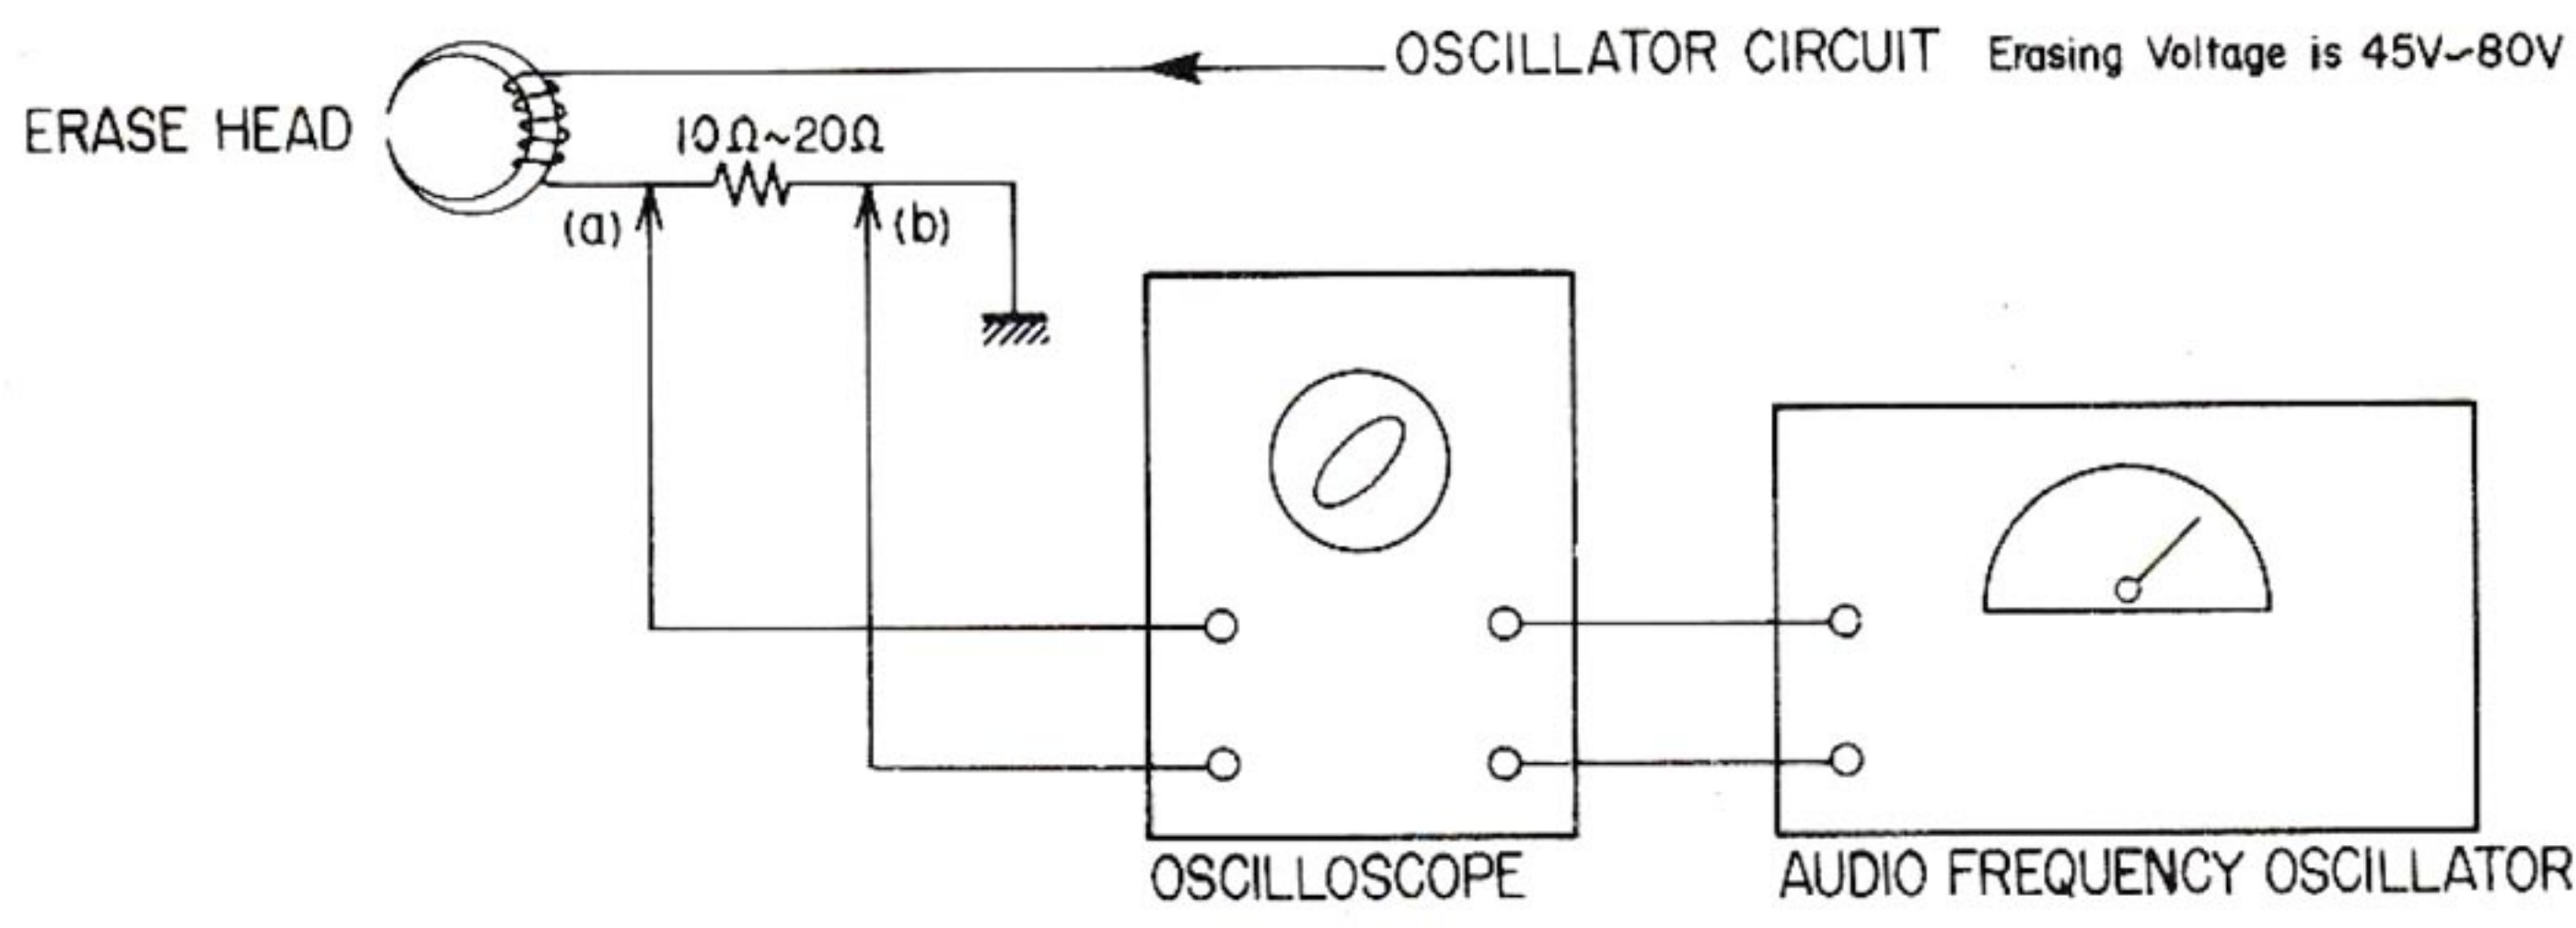
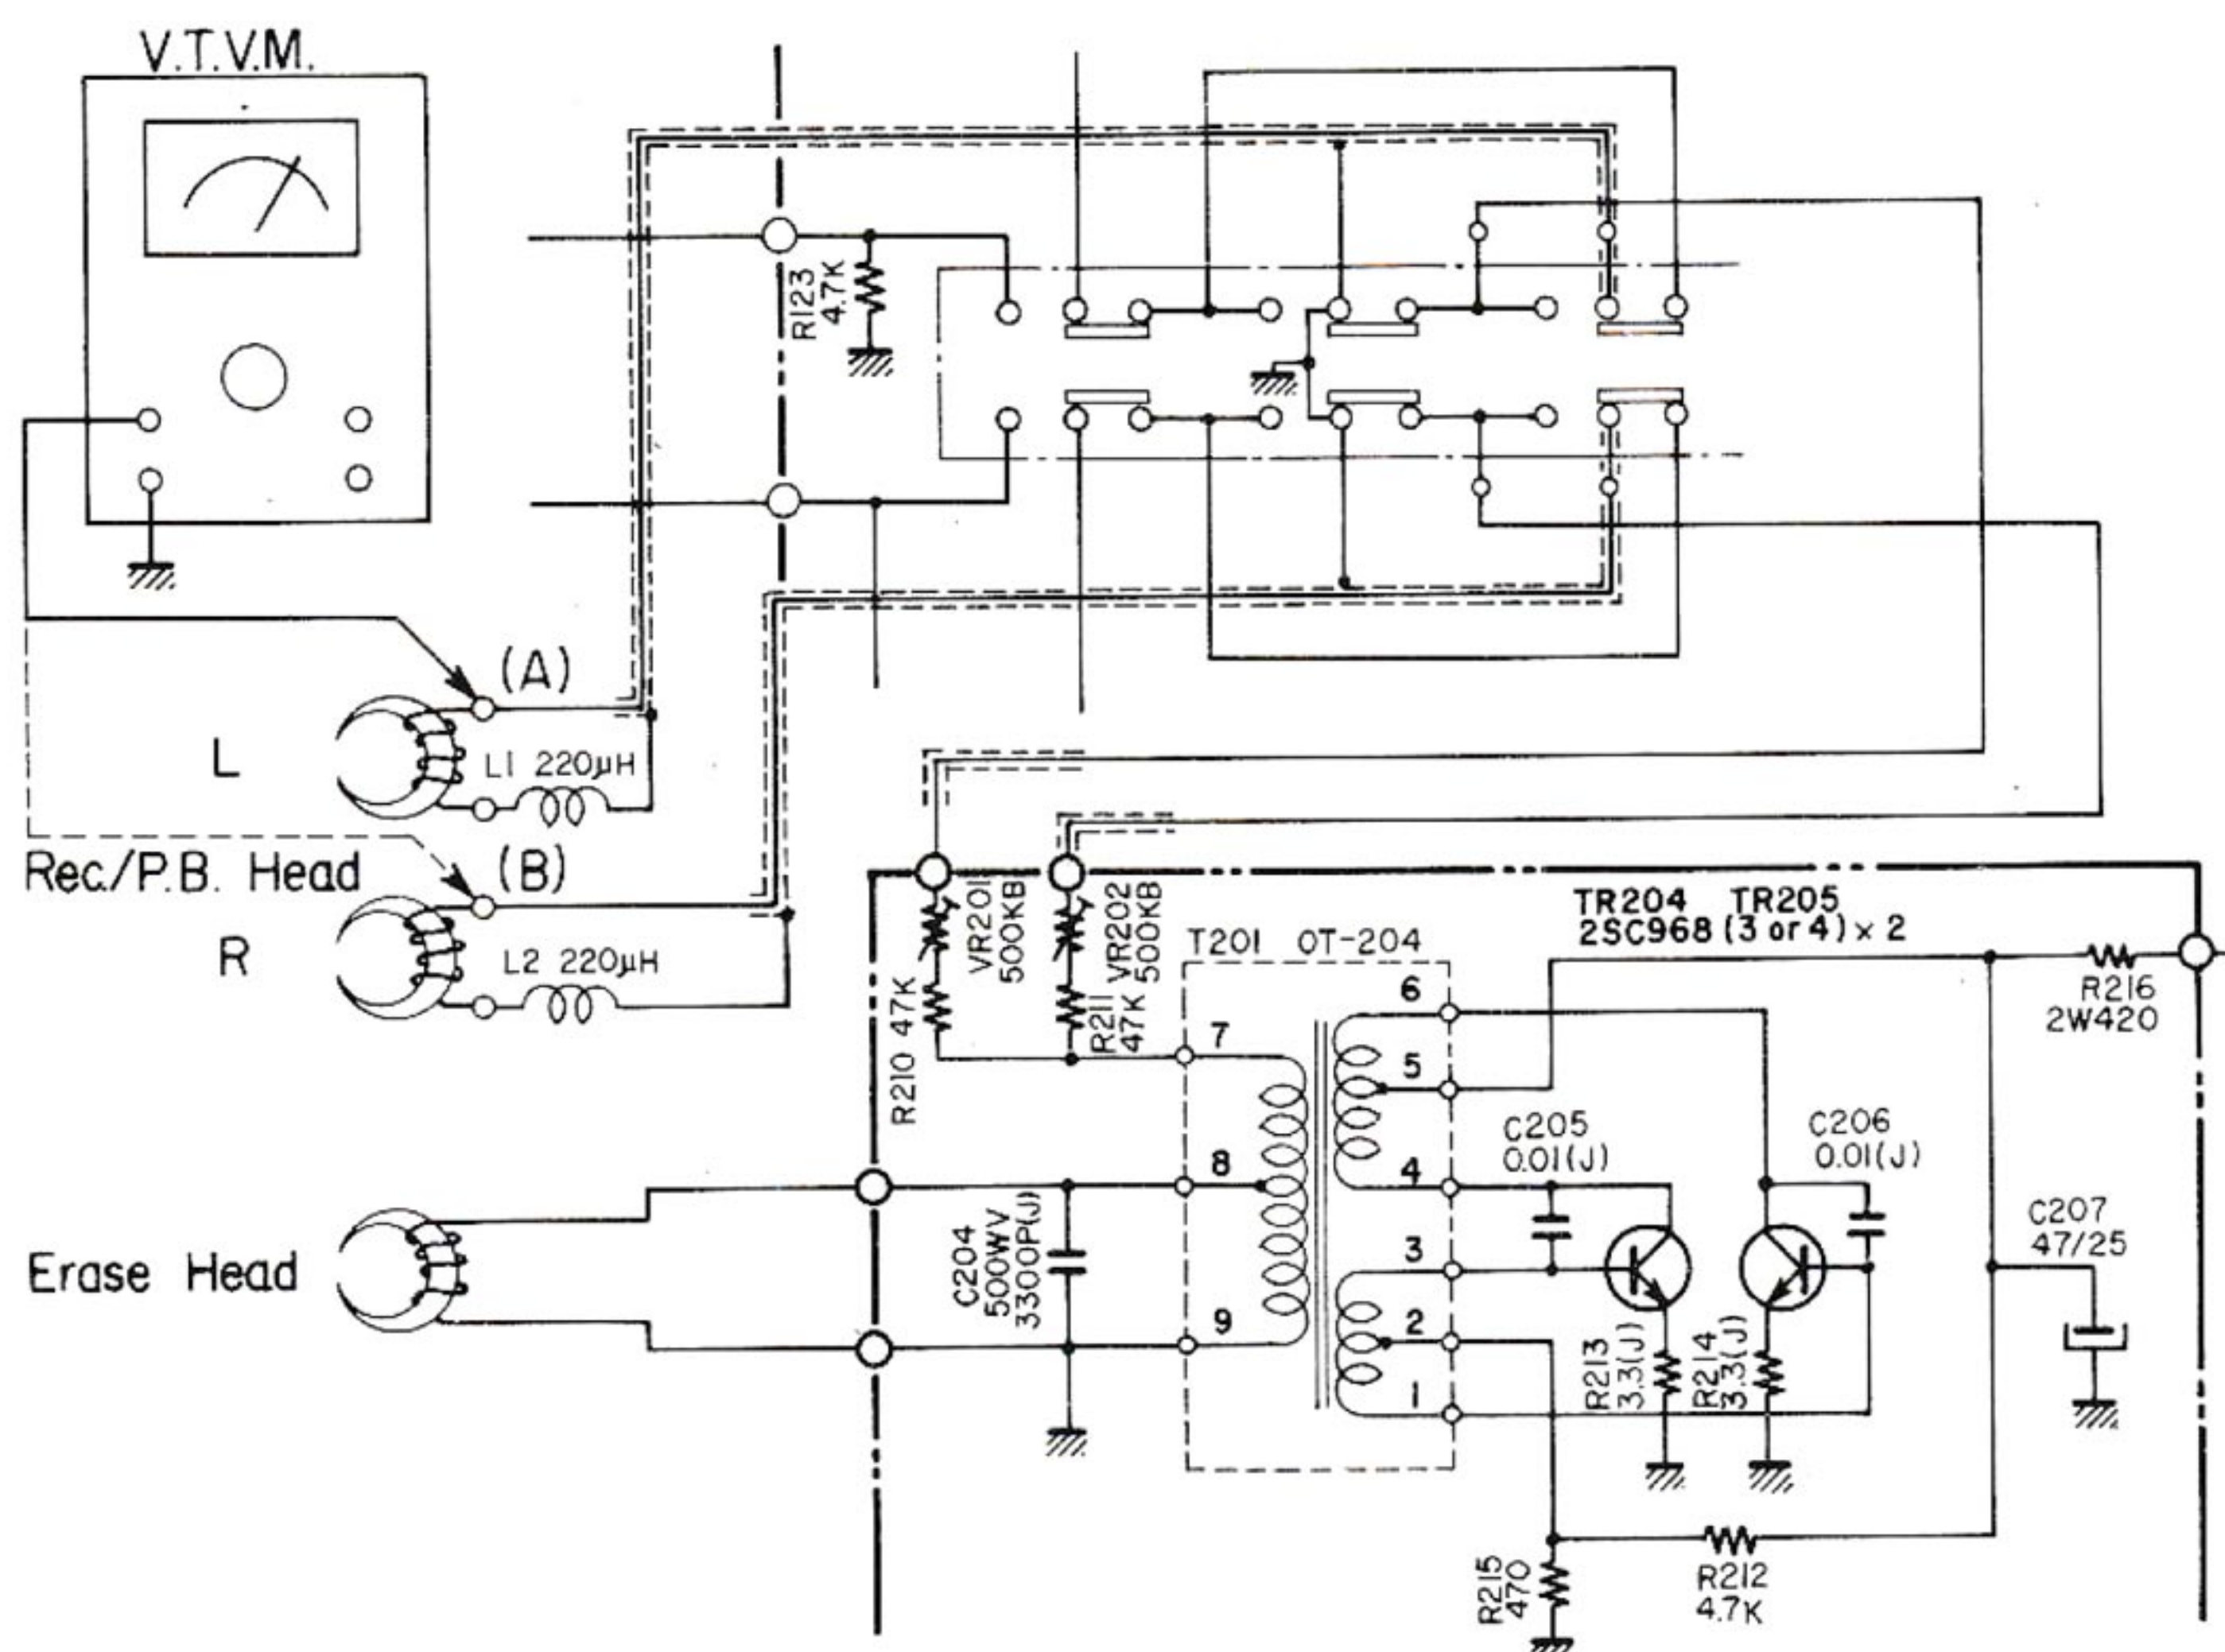

Fig. 1
Fig. 2
1. ADJUSTMENT OF RECORDING BIAS FREQUENCY (See Fig. 1)
- Put on the resistor 10 or 50 Ω in series with the Erase Head and connect the Vertical Input Terminal of the Oscilloscope to points (A) and (B).
2. ADJUSTMENT OF RECORDING BIAS VOLTAGE (See Fig. 2)